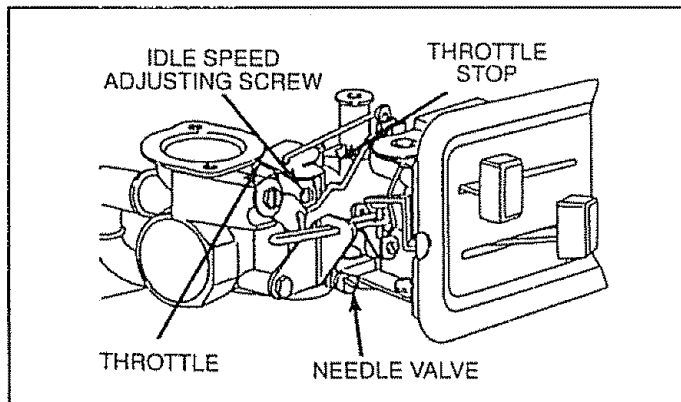

FIG. 26
- Gently turn NEEDLE VALVE (Fig. 26) clockwise until it just closes. Valve may be damaged by turning it inward too far.